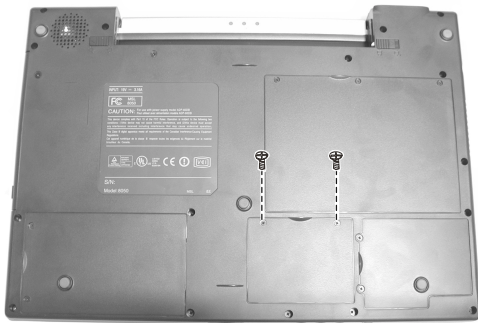

Figure 2-16 Remove the cover
2. Remove two screws fastening the DDR compartment cover to access the SO-DIMM socket. (Figure 2-16)